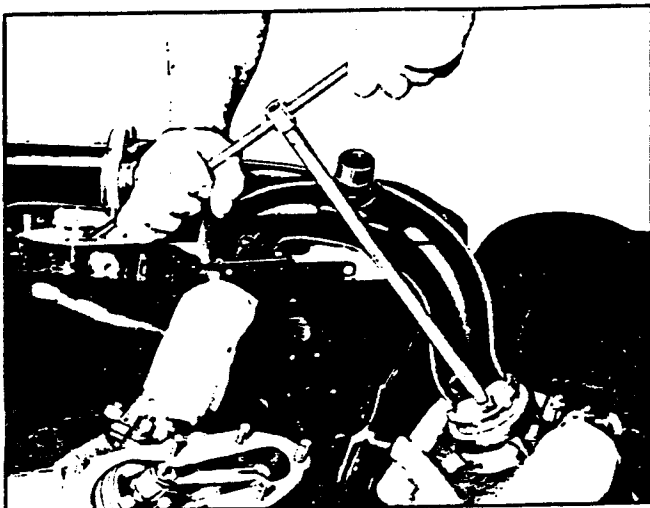

Figure 33. Tightening Intake Pipe Nut
5. INSTALLATION AND ADJUSTMENT OF INTAKE MANIFOLD.- Place the copper gasket on each intake port; then install the intake manifold in one piece over its studs. Secure in place with washers and castellated nuts, tightening the nuts down evenly and safety them in pairs. Secure the manifold to blower case, using FWA-1786 Wrench. (See figure 33.) Tighten the hose clamps.